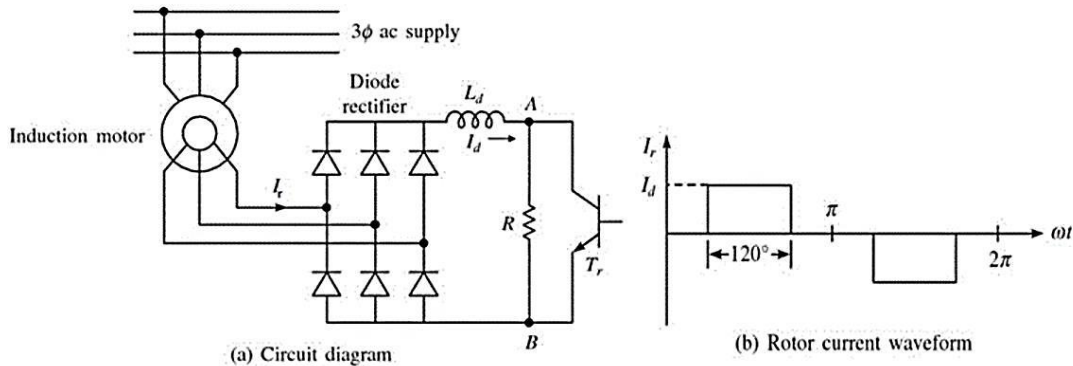

Figure 3 – Rotor resistance control
- (b) With the aid of circuit diagram and rotor current waveform shown in Figure 3, explain the rotor resistance control used in induction motor.